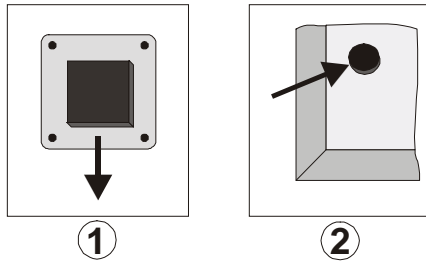

Fig. 5: Entering the System Download Mode
- (1) Directly after the initialization sequence of the JCVM8: If no valid application software is available in bank 0 of the Flash memory, the device enters the system download mode.
- (2) During normal operating conditions: If the virtual machine is restarted by the method `switchBank()` of the built-in class `jcontrol.system.Management` and the new Flash bank contains no valid application software.
- (3) The system download mode may be enforced by pushing the joystick switch down while resetting the device as shown in Fig. 5.